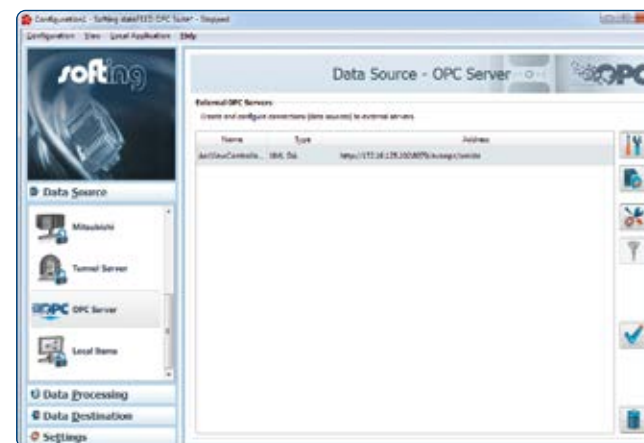

Figure 78: Data Source Window of the OPC connection.
12. Confirm the new settings to save them. If the configuration was successful, the screen should look like the following (Figure 78).